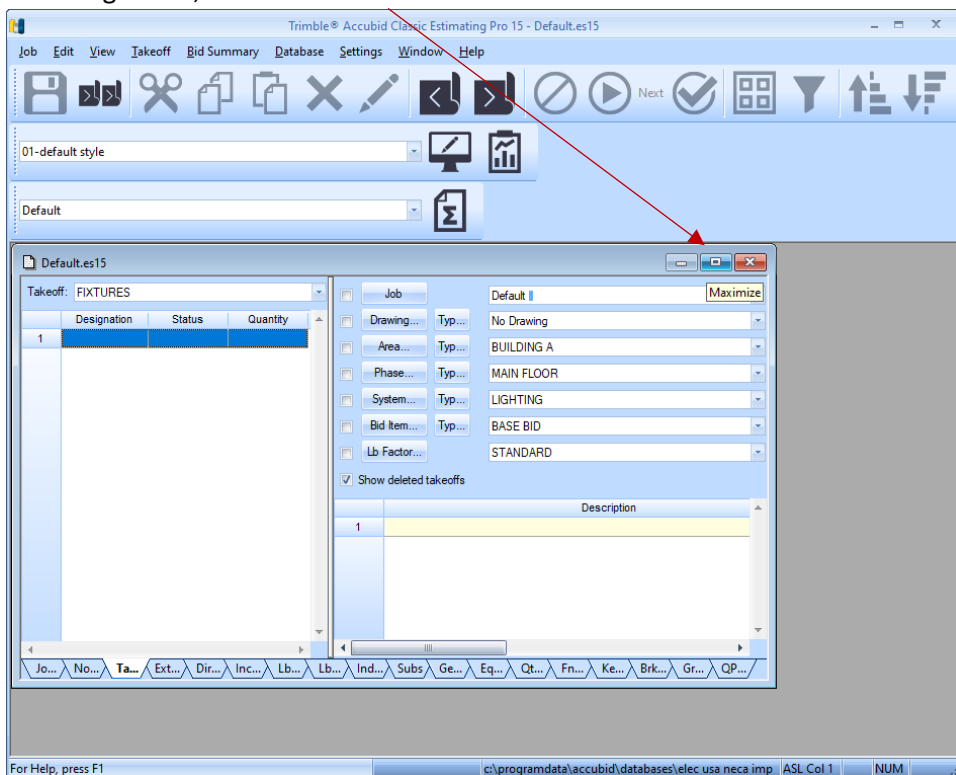

Figure 22
33. In File Explorer Double Click on the Default.es15 or Default file to Open it in Accubid. (If the .es15 is not displaying that is just a view option and not necessary to view. If the Default window is not maximized as shown in Figure 22, click the Maximize button in the Default window to maximize the window.